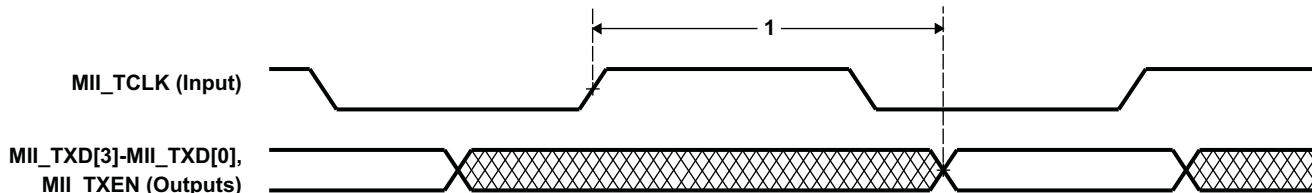

**Figure 6-47. EMAC Receive Interface Timing**
**Table 6-100. Timing Requirements for EMAC MII Receive 10/100 Mbit/s(1) (see Figure 6-47)**